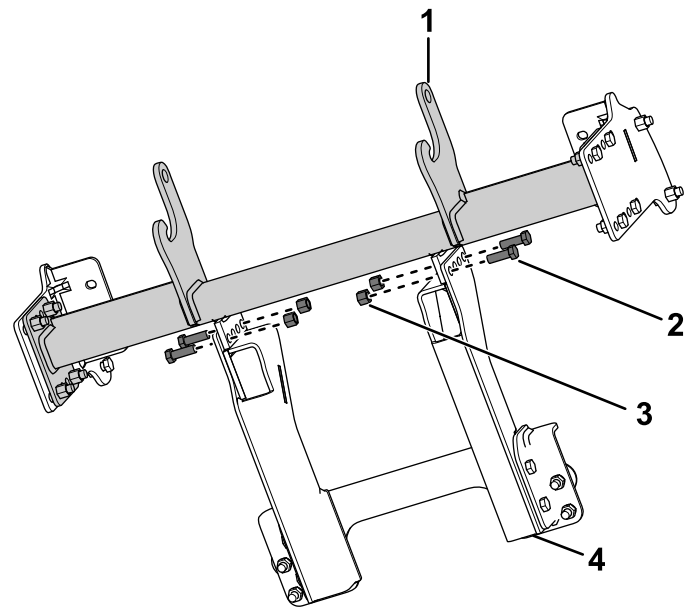

Figure 7
- Use 4 hex-head bolts (1/2 inch, GR5) and 4 nylon locknuts (1/2 inch) to loosely secure the angle brackets to the tabs on the back of the push beam assembly (Figure 7).